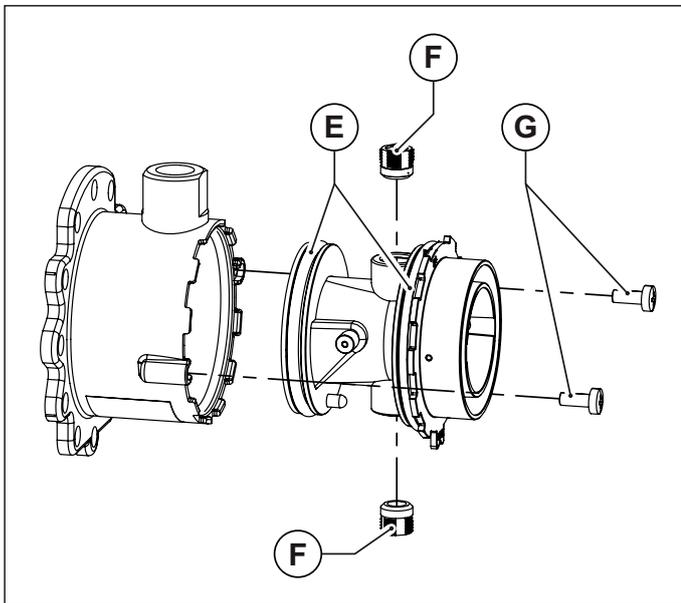
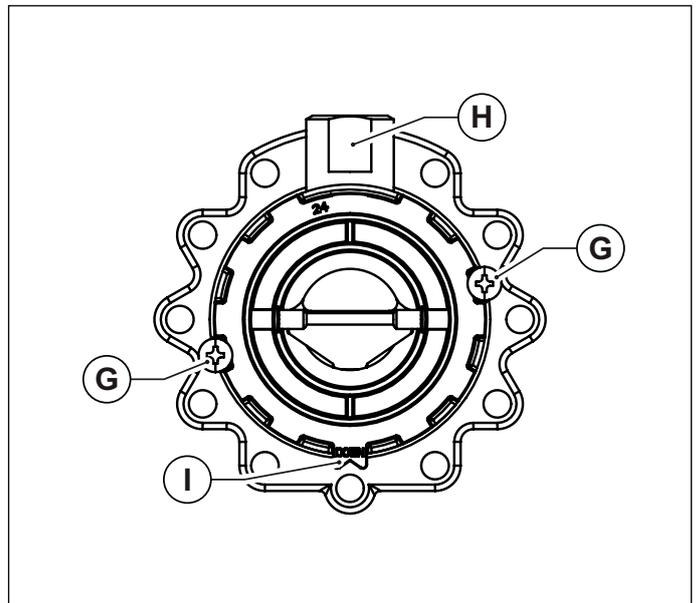

Fig. 37 Mixer plastic body
Fig. 38 Assembling direction
- Loosen the two retaining screws, and slide out mixer plastic body (see Fig. 37 Mixer plastic body).
- Using a 6 mm Allen wrench, loosen the two mixer nozzles (see Fig. 37 Mixer plastic body).
- To refit the plastic body (Venturi), insert it inside mixer and secure it in place with the retaining screws. Take care not to damage the O-rings assembled on plastic body ends (see Fig. 37 Mixer plastic body) and to respect the assembling direction (see Fig. 38 Assembling direction).
- Refit the reassembled mixer onto the fan with the socket head screws, making sure to insert the O-ring between mixer and fan (see Fig. 37 Mixer plastic body).